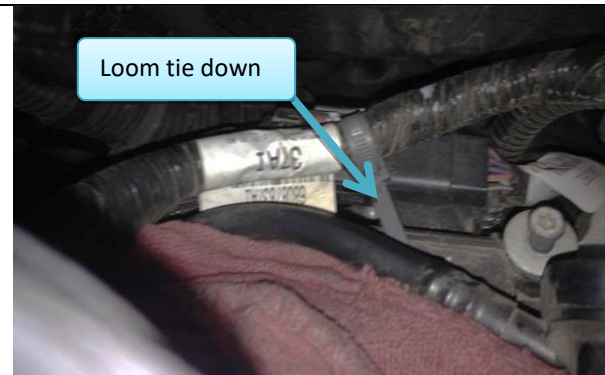

Figure 20: Wire tie downs on rear of lower intake.
12. Release tie downs from wiring harness from rear of lower intake (next to firewall) (Figure 20)